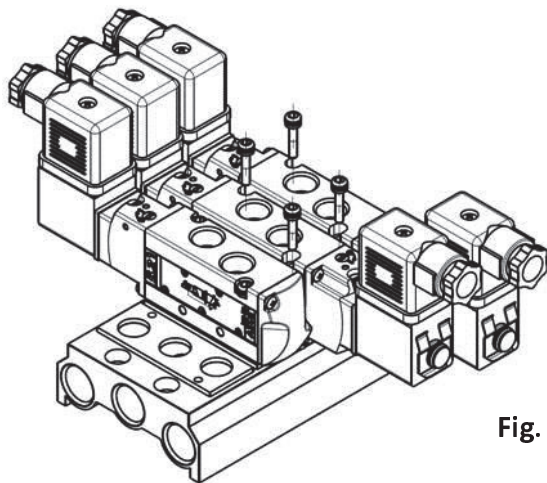

Fig. 1
- **On the manifold (Fig. 1)**